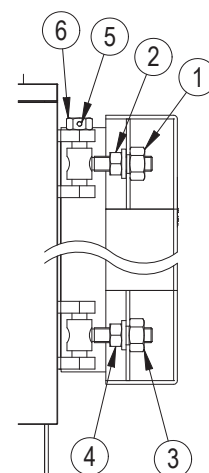

fig. 10
5.6.2 For models PREXTHERM RSW 720N+1060N (Fig. 10)